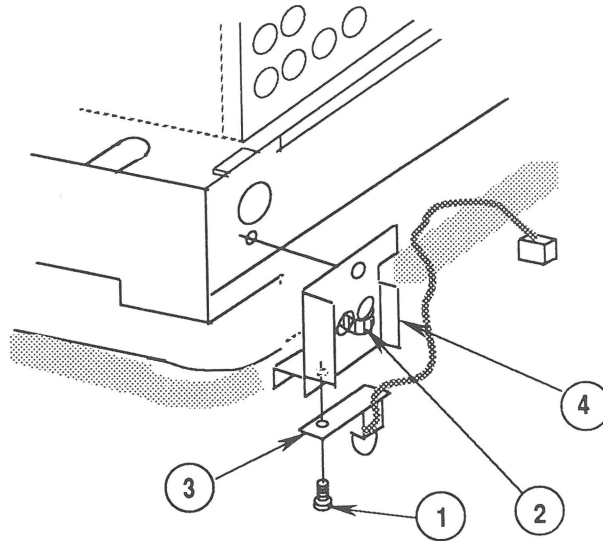

FIGURE 48
10. Remove the screw (Figure 48, #1) from the LED board.
11. Cut the tie-wrap (Figure 48, #2), and remove the LED cable assembly (Figure 48, #3) from the mounting bracket (Figure 48, #4).
1. Position the new LED cable assembly (Figure 48, #3) on the mounting bracket (Figure 48, #4), and replace the mounting screw (Figure 48, #1).
2. Install a new tie-wrap (Figure 48, #2) around the LED cable and mounting bracket as shown in Figure 48.